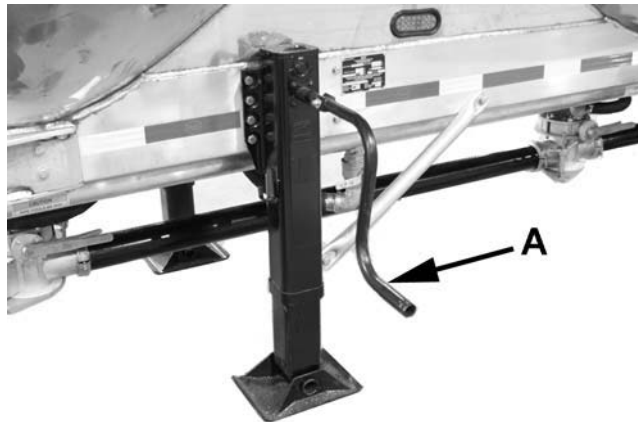

Figure 3-8 – Two Speed Landing Gear
13. Raise the landing gear. MAC Trailer uses a two speed landing gear from several different manufacturers. High speed may be “in” on some models and “out” on others. Engage the crank handle (A) to the shaft and turn to retract the landing gear. Return the two speed landing gear crank handle to the storage position. See Figure 3-8.